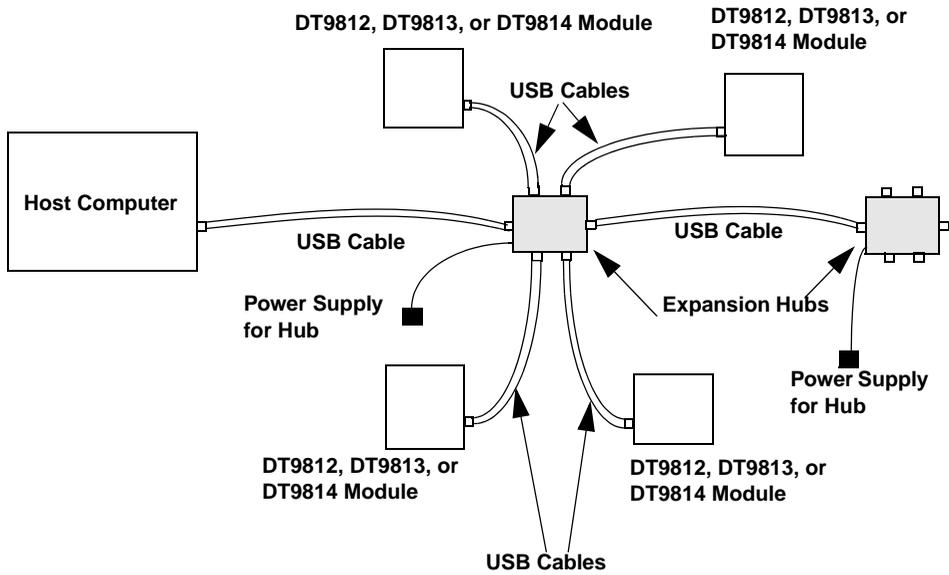

Figure 3: Attaching Multiple DT9812, DT9813, and/or DT9814 Modules Using Expansion Hubs
5. Repeat these steps until you have attached the number of expansion hubs (up to five) and modules (up to four per hub) that you require. Refer to Figure 3.